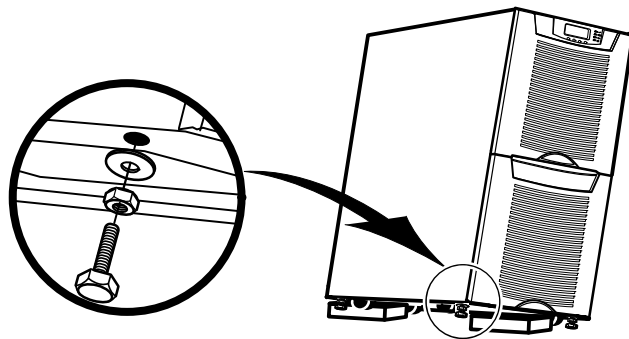

Figure 1. Replacing the Leveling Feet
4. Tilt and block the UPS to access the leveling feet on one side (see Figure 1).